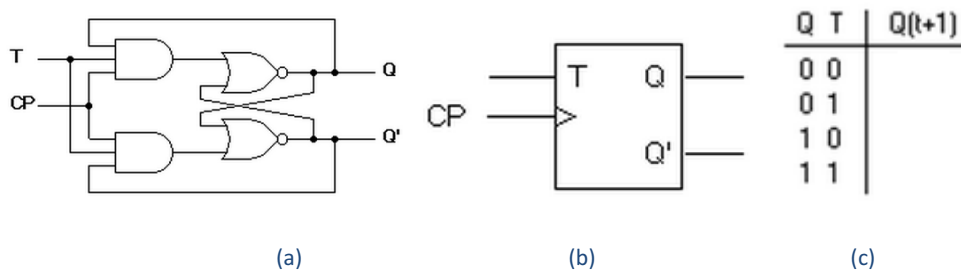

Figure 3 – Toggle flip-flop Logic diagram (a), graphical symbol (b) and transition table (c).³
1. The MC14521B has a chain of 24 toggle (T) flip-flops. Observe the flip-flop internal connections in Figure 3 (a) and fill the transition table in Figure 3 (c):³